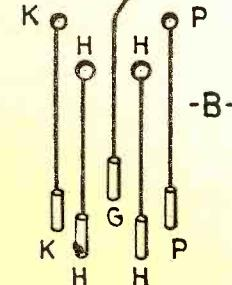

FIG.4
-41 and -42 type tubes are similar in appearance to the one shown in Figure 4. Using adapters such as these, -41 and -42 type tubes may be tested in set analyzers having five-prong test sockets.